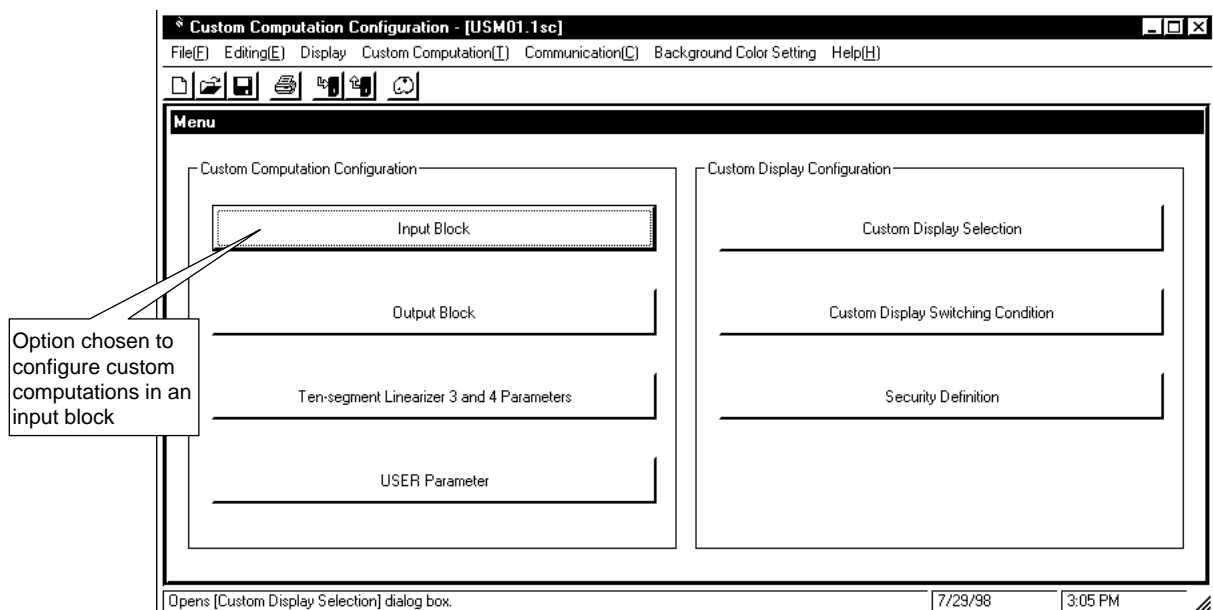
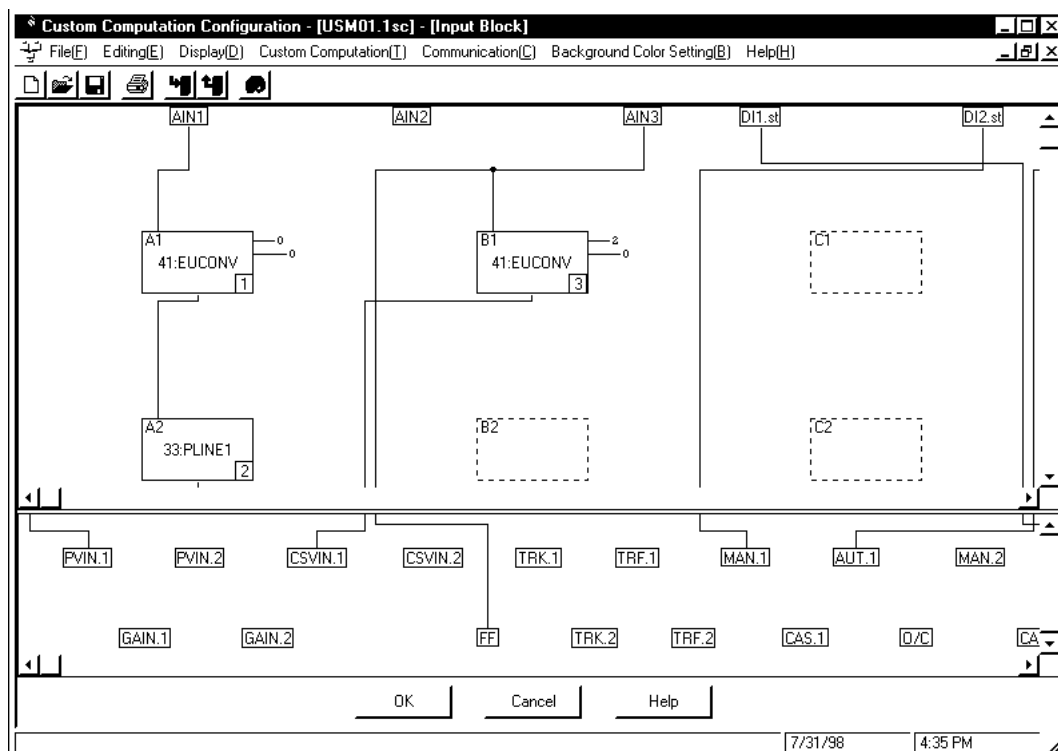

Figure 4.2.2 [Custom Computation Configuration Menu] Dialog Box
Figure 4.2.4 [Input Block] Dialog Box for Single-loop Control
Figure 4.2.2 shows the [Custom Computation Configuration Menu] dialog box used to configure custom computations.
- ① In the [Custom Computation Configuration Menu] dialog box (Figure 4.2.2), click the <Input Block> button. The [Input Block] dialog box appears. Figure 4.2.4 illustrates the [Input Block] dialog box for single-loop control.